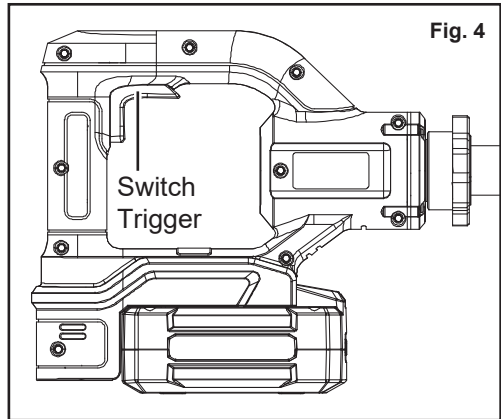

Fig. 4
- 3) Turn the motor on by gently squeezing the switch trigger (**See Fig.4**). The vibrator head will start vibrating once switch on. **DO NOT hit the vibrator head to solid ground. There are two holding positions of trigger. You can hold tool as comfort as you can.**